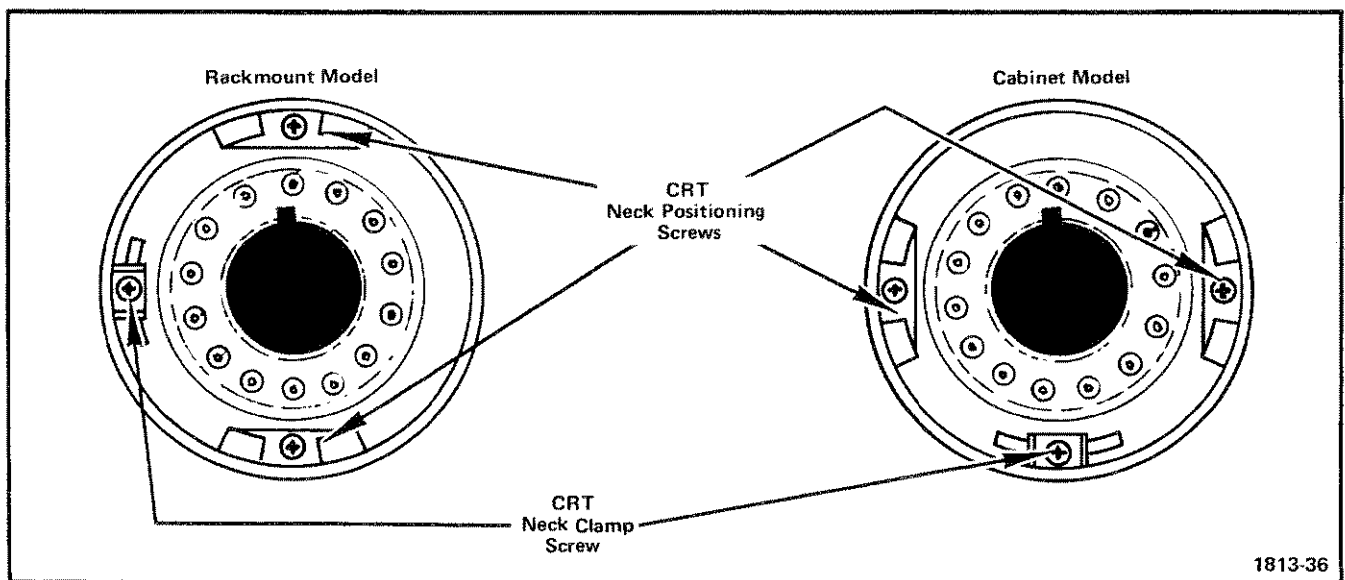

Fig. 6-7. Rear view of crt shield.
3. Loosen the neck clamp screw (see Fig. 6-7).
7. Hold one hand on the crt faceplate and push on the crt base with the other. As the crt starts moving out of the shield, grasp the crt firmly. If the crt does not budge, loosen the crt neck positioning screws (see Fig. 6-7) slightly so the crt can be moved around. Then push on the crt base while moving the base gently from side to side. Guide the anode lead through the hole in the crt shield as the crt is removed.